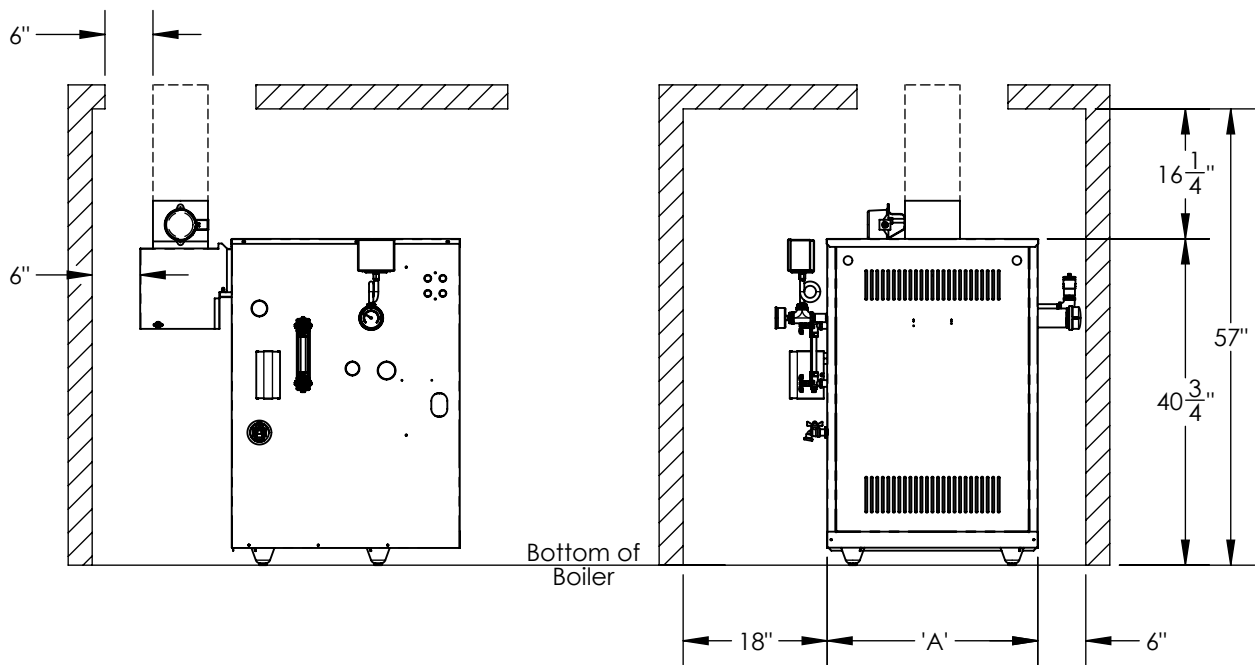

Figure 4-2: Minimum Alcove Clearances STMX075 through STMX299
1. Provide clearances between boiler jacket and combustible material in accordance with authority having jurisdiction. Minimum clearances to combustible material shown in Figure 4-2 and 4-3.
- Maintain clearances to vent piping and draft hood per Figures 4-2 and 4-3.
1. Locate boiler as close to chimney as possible. See Figure 4-2 and 4-3 for minimum clearances.
- A. See Figure 3-4 for vent sizes and locations. See Figure 4-2 for clearances.